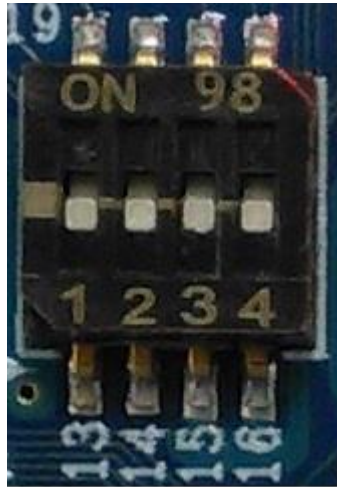

Fig.2-1 DIP-SW initial settings
- (1) Set all DIP-SW to off (Fig. 2-1)